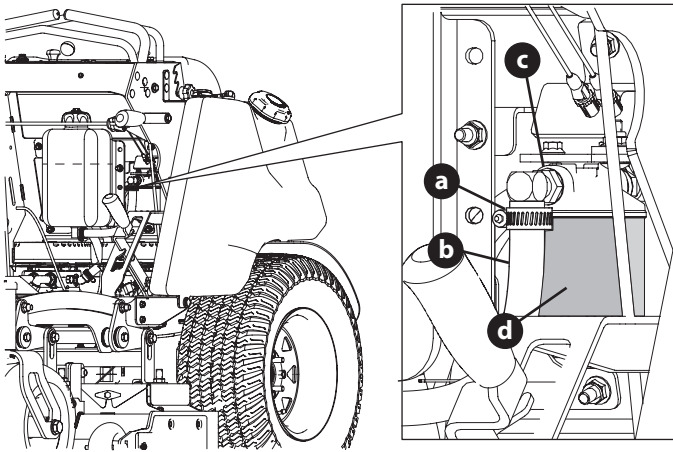

Fig. 27
2. Loosen the hose clamp (a) securing the transmission oil hose (b) to the transmission oil filter assembly (c) (Fig. 27 on page 22).
5. If necessary, perform the following to replace the oil filter (Fig. 27 on page 22):
7. Tighten the hose clamp (a) securing the transmission oil hose (b) to the transmission oil filter assembly (c) (Fig. 27 on page 22).